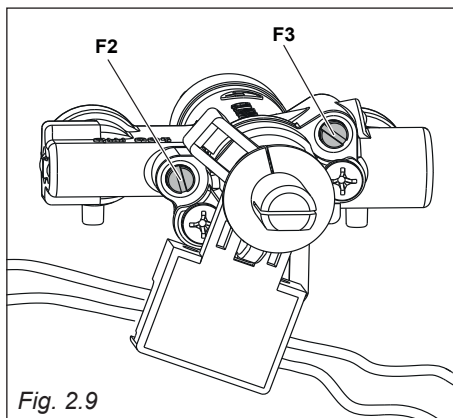

Fig. 2.9
- Using a screwdriver turn the screw “F3” until the correct setting is obtained (fig. 2.9).